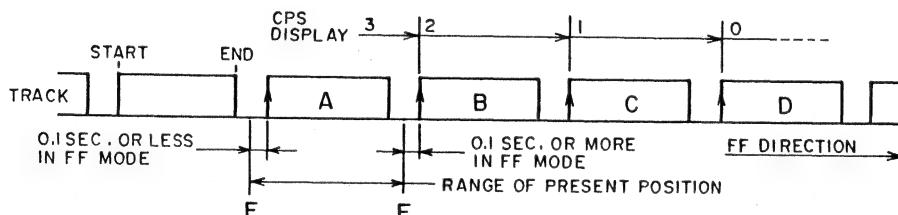

Fig. 8-2 CPSFF Example
In the CPSFF mode the start of each track is detected, and the CPS counter is reduced by one each time. However, no track starts are detected within the first 0.1 seconds after the start of CPSFF. In addition, if CPSFF is started from the middle of a track, that track is not counted. In figure 8-2 the current position is between E and F, and if the third track (D) is selected, the CPSFF mode will detect each track start, and